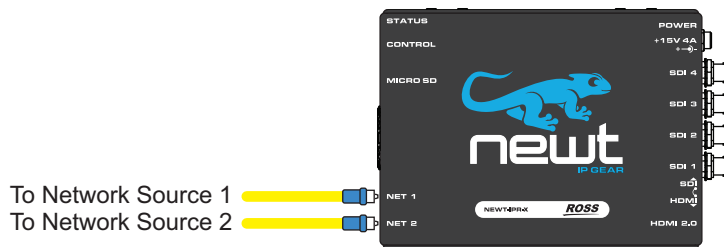

Figure 7 NEWT-IPX — NET Port Connections
3. Cable your SFP module as required. (Figure 7)